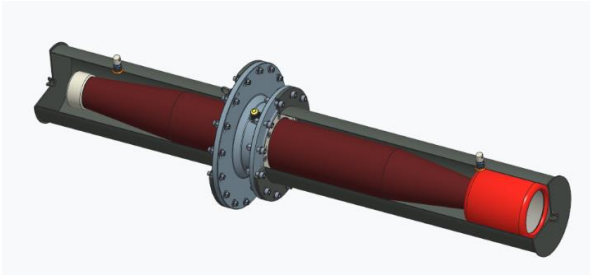
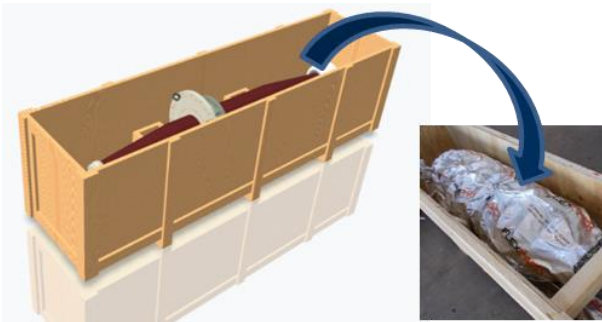

Fig. 4
Fig. 5
- Concerning the storage of the bushing, the location (outdoor, rain protected or indoor) and the duration of storage (short, medium, or long term) must be considered. If necessary, a storage canister can be ordered to the manufacturer (fig. 4).
| Long term | Not recommended | Upper and lower parts of the bushing in a storage canister, filled with dry nitrogen (fig.4). or: In original transportation box and original packing. Only in dry rooms, temperature as constant as possible. The desiccant cartridge should be checked regularly. The bushing must be fully wrapped into laminated aluminium foil (fig.5) (PETP/Al/PE). Quantity of desiccant 2½TME/m ² for moderate climate 25 TME/m ² for extreme climate TME/ m ² : Desiccant unit per m ² of the barrier surface |